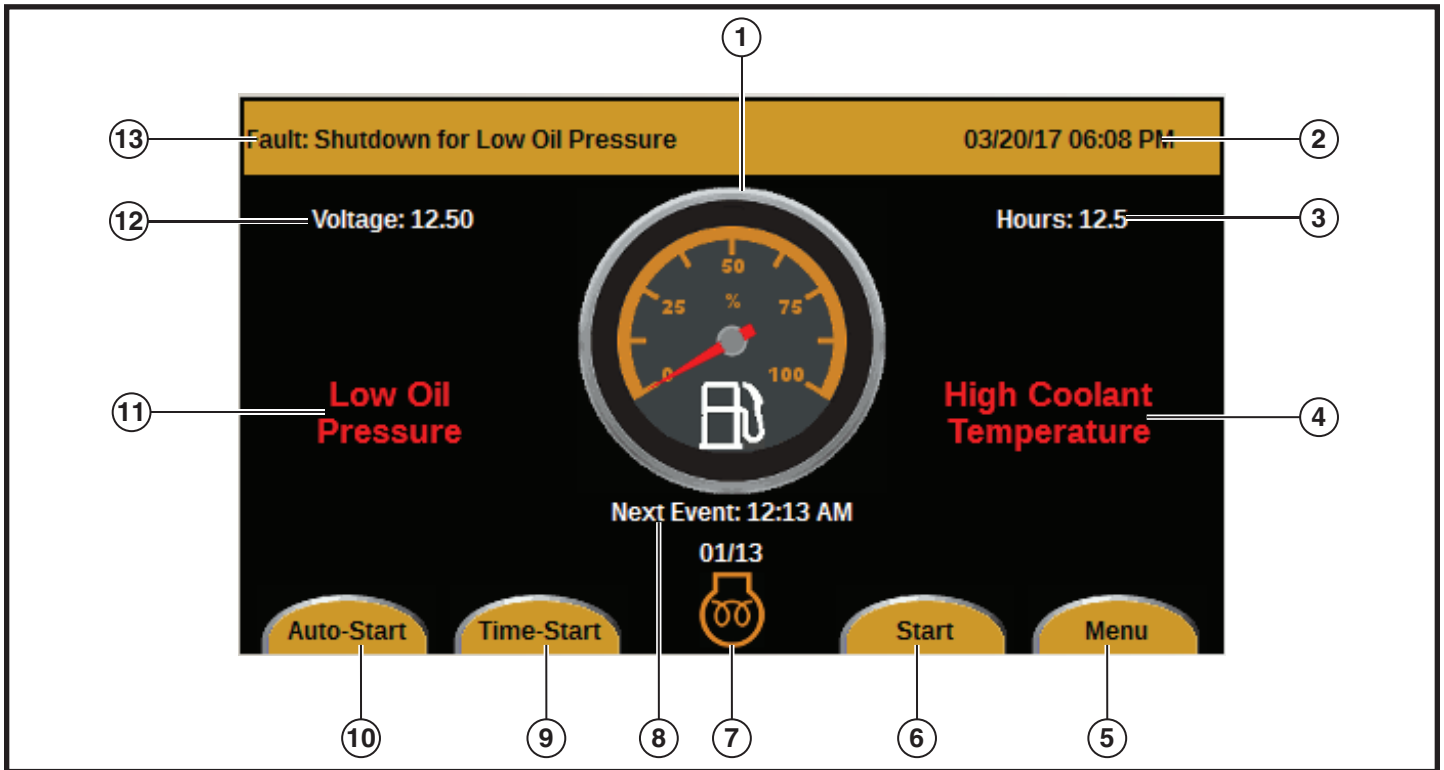

Figure 1
- Any applicable fault messages (item 13 in *Figure 1*)
- The current date and time (item 2 in *Figure 1*).
- Low oil pressure warning (item 11 in *Figure 1*)
- Fuel level gauge (item 1 in *Figure 1*)
- High coolant temperature warning (item 4 in *Figure 1*)
- Battery DC voltage (item 12 in *Figure 1*)
- Accumulated engine run hours (item 3 in *Figure 1*)
- The time at which the next start-up or shutdown will occur (Item 8 in *Figure 1*)
The bottom of the Main Operating screen has the glow plug–on symbol (item 7 in *Figure 1*) as well as four buttons.
- Auto-Start button (item 10 in *Figure 1*): Press the Auto-Start button to activate the auto-start/stop program, which will start the engine at or near sunset and stop the engine at or near sunrise. Press the Auto-Start button again to turn off the program. For more information on setting up the sunrise and sunset times, see *Auto-Mode – Sunset/Sunrise-based Start/Stop Screen*.
- Time-Start button (item 9 in *Figure 1*): Press the Time-Start button to activate the time-start/stop program, which will start or stop the engine at preset times of the day. Press the Time-Start button again to turn off the program. For more information on setting up the timed start/stop program, see *Automatic Control Setup Screen*.
- Start button (item 6 in *Figure 1*): Press the Start button to start the engine. The engine will start after a 15-second delay, and the display will change from Start to Stop. Press the Stop button to stop the engine.
- Menu button (item 5 in *Figure 1*): Press the Menu button to make programming changes (see *Menu Screen*).